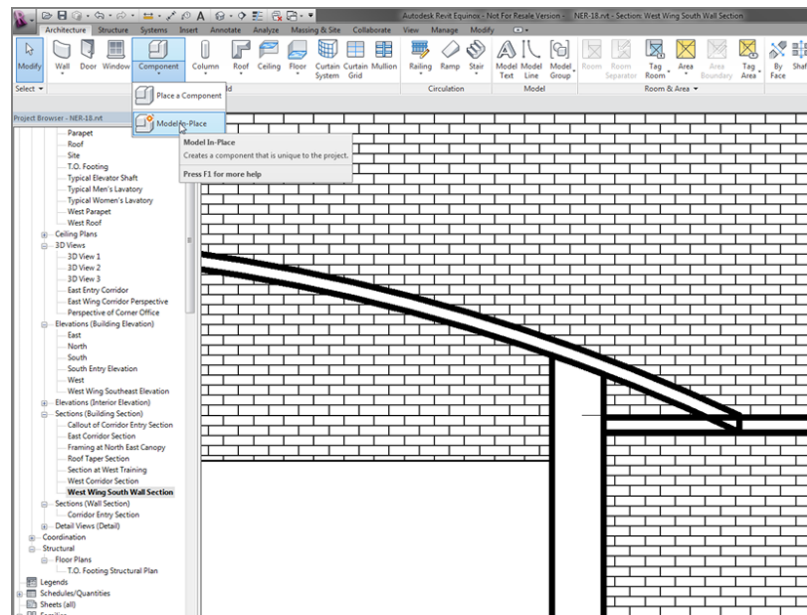

FIGURE 17.28: Starting an in-place family
3. On the Architecture tab, click Component > Model In-Place, as shown in Figure 17.28.